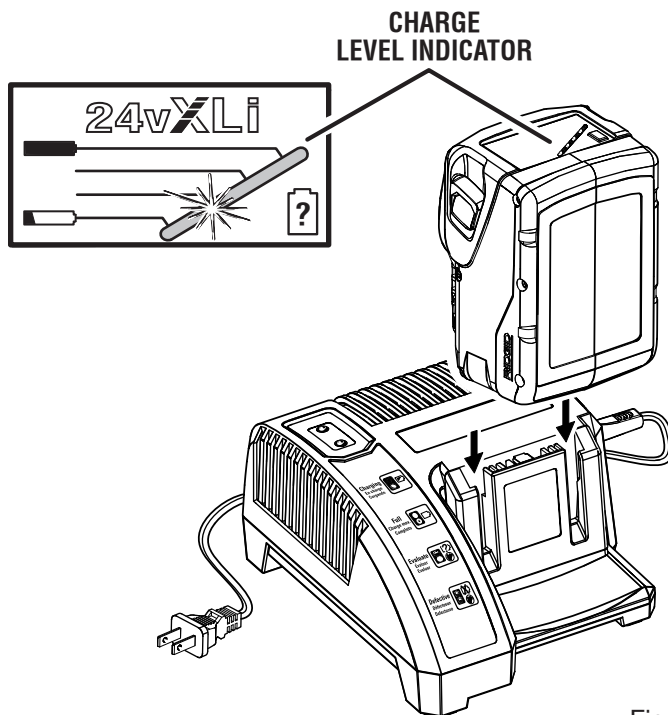

Fig. 1
- Attach the battery pack to the charger by aligning the raised ribs on the battery pack with the grooves in the charger, then slide the battery pack onto the charger. See Figure 1.